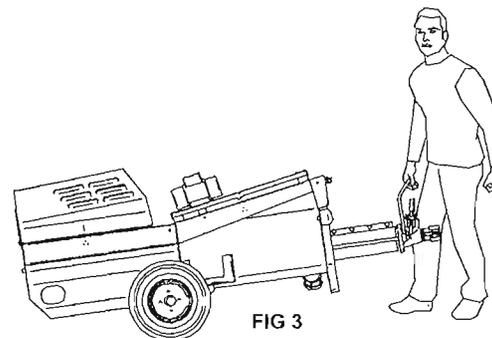
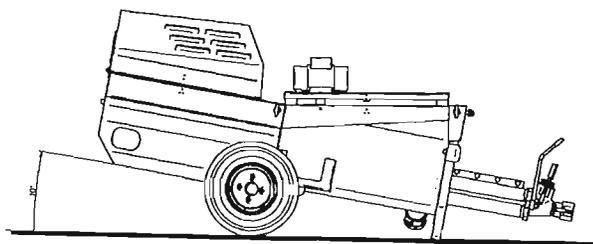

FIG 3
FIG. 5
8. TRANSPORTABILITY (fig.3), LIFTING (fig.4), TOWABILITY (optional fig.5)
- CAUTION! Never use points other than as specified in figure 3 to lift the machine.
The machine must always be placed on a flat surface: a slight downward inclination of the cam pump will aid outlet of the material (fig 5).
To stop the machine in the event of an emergency, press the red emergency button (ref. 9). To isolate the machine, turn the main switch to 0 and remove the electric power plug from the socket (ref. 1, fig. 5) all moving parts are shut down.